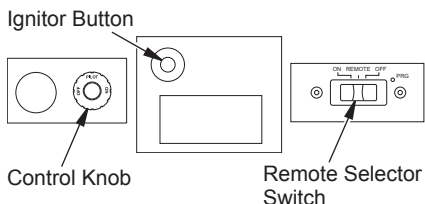

Figure 32 - Remote Selector Switch, Control Knob and Ignitor Button
- Set remote selector switch in the AUTO position (see Figure 32).
- Press in and turn control knob clockwise  to the OFF position (see Figure 32).
- Wait five (5) minutes to clear out any gas. Then smell for gas, including near the floor. If you smell gas, STOP! Follow "B" in the safety information on page 20. If you don't smell gas, go to the next step.
- Press in and turn control knob counterclockwise  to the PILOT position. Press in control knob for five (5) seconds (see Figure 32).
- Press on/off key on remote control and turn control knob clockwise  to the OFF position (see Figure 32).
When batteries in receiver are low, no acoustic signal will be given when ON/OFF button is pressed. If batteries in receiver are low, fireplace can be switched on manually by moving remote selector switch to ON (see Figure 32, page 20).